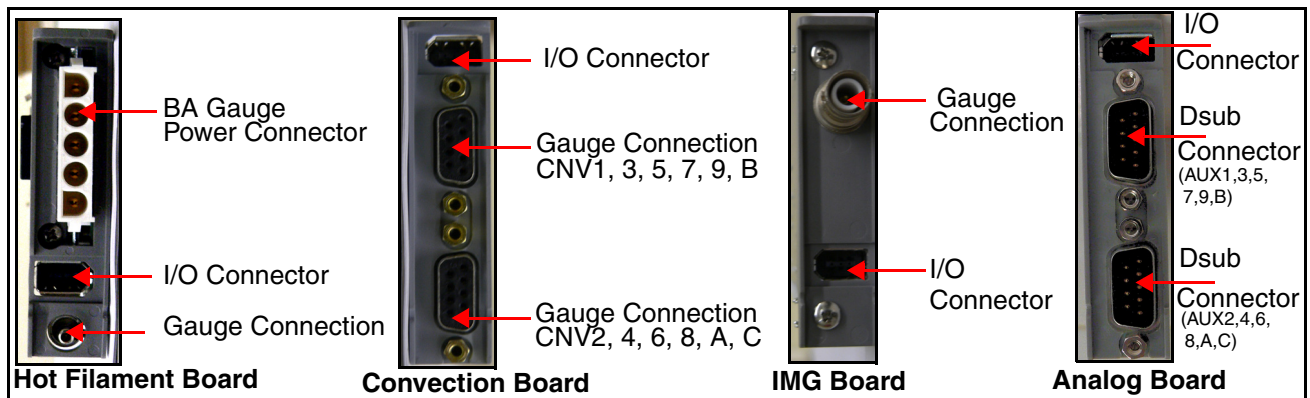

Figure 2-1 Gauge Board Rear Connections
3. Connect gauge and I/O cables depending on controller configuration according to Figure 2-1: